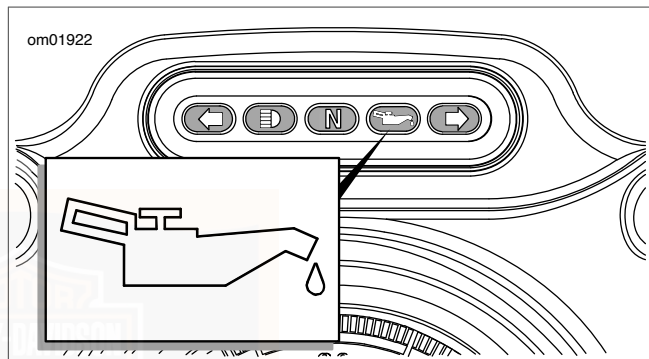

Figure 44. Oil Pressure Indicator
3. See Figure 44. Verify oil pressure.